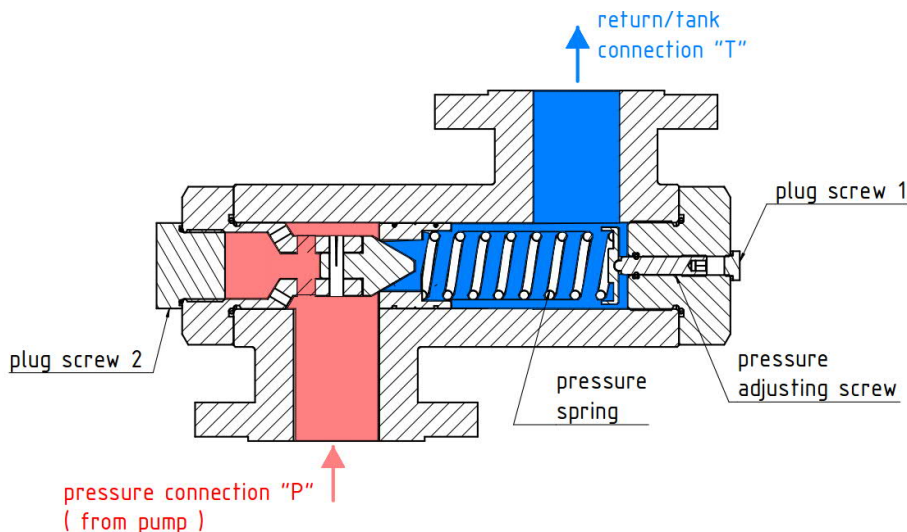

Fig.1 Operating principle
- Should there be no manometer attached, please remove the plug screw 2 and fit one to the manometer connection G1/4" (Fig. 1) - applies to FDR 15 – FDR 32. For the valve FDR 50 is recommended, installation of the pressure gauge in the existing pressure pipe .
- hp-overflow valves have been factory-set to the lowest possible pressure level of the respective pressure stage. In order to set the desired operating pressure, first remove the plug screw 1 (see Fig.1) to reveal the adjusting screw beneath.
- Now switch on the unit's pump and turn the adjusting screw to the right to adjust the operating pressure to the desired setting (turn the setting screw to the right – clockwise -> to increase the pressure, turn the setting screw to the left – counterclockwise -> to decrease the pressure. For a reading of the set value, Section 4.13 of DIN EN 12514-2, Issue 2000 calls for a manometer to be attached to the unit. Should there be no manometer attached, please remove the plug screw 2 (see Fig.1) and fit one to the manometer connection (only for FDR 15 – FDR 32). (For FDR 50 see chapter 3)